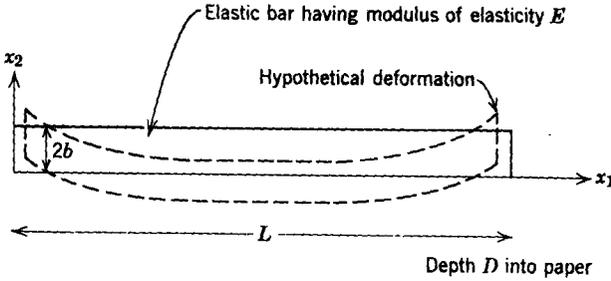

Fig. 11P.6
11.6. An elastic bar is often used in musical instruments as a source of audio-frequency tone. The bar is suspended by strings, attached to it at such points that the transverse (x_2) motion of the elastic material is not appreciably inhibited. (Examples are the vibraharp and marimba.) If the bar is struck by a mallet, it vibrates at one or more of its resonance frequencies. We consider here the problem of finding these frequencies, under the assumption that the bar is as shown in Fig. 11P.6. The bar is supported so that transverse motions are uninhibited, that is, both ends are free.